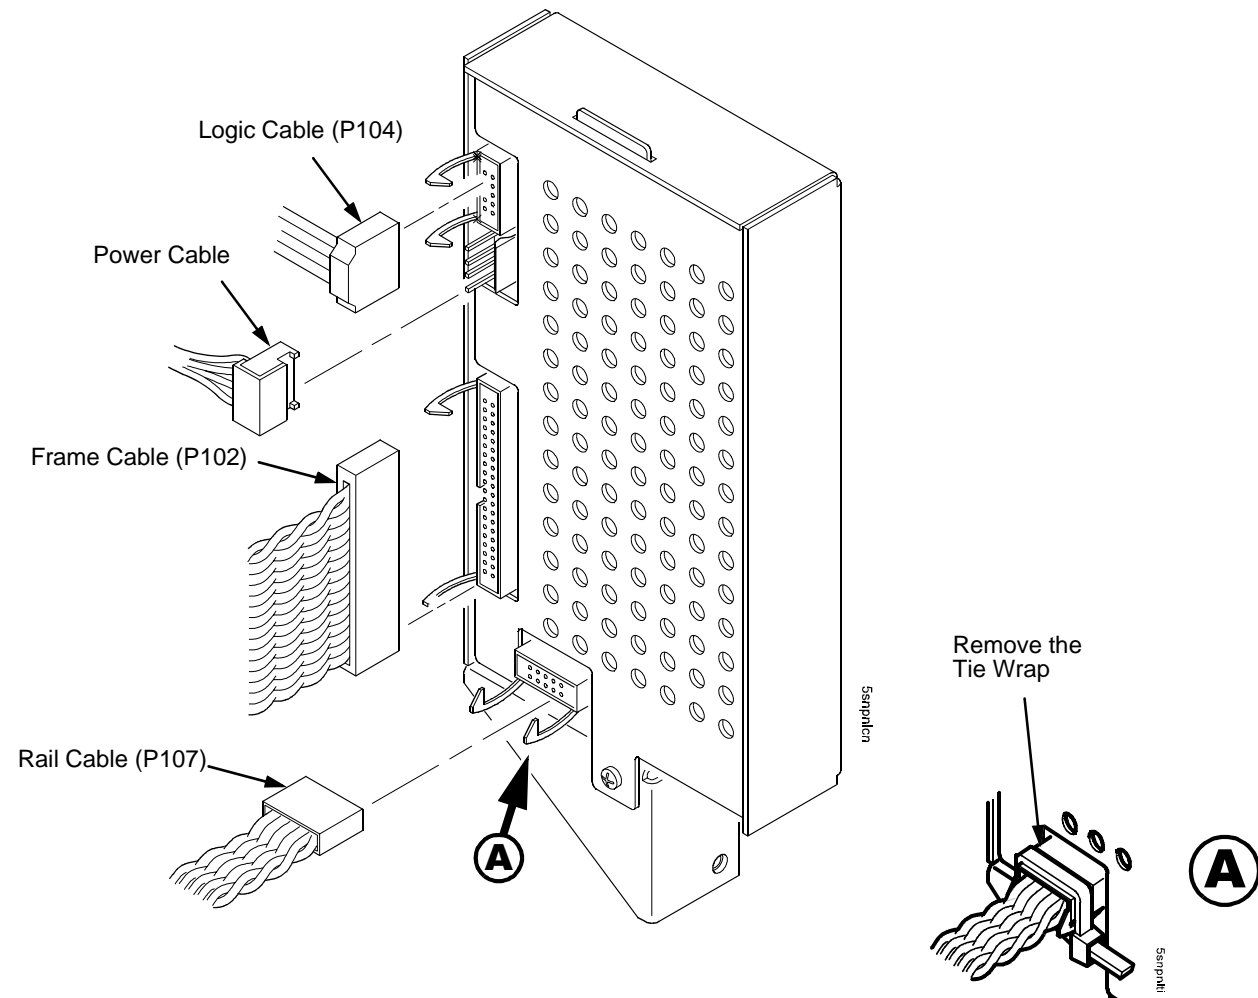

Figure 79. This figure shows how to remove the cables from the rear of the stacker operator panel.
7. Remove four cables from the stacker operator panel, and remove the stacker operator panel. (Figure 79.)